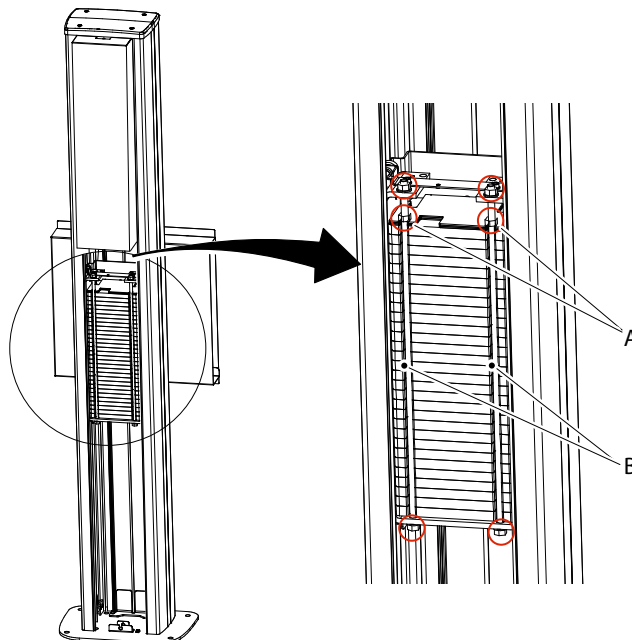

Fig. 4-67 Loosen screws
7. The counterweights must be fixed with two long screws (B) and six nuts. Three on each side to make sure that they are pulled together, see **Fig. 4-67**.